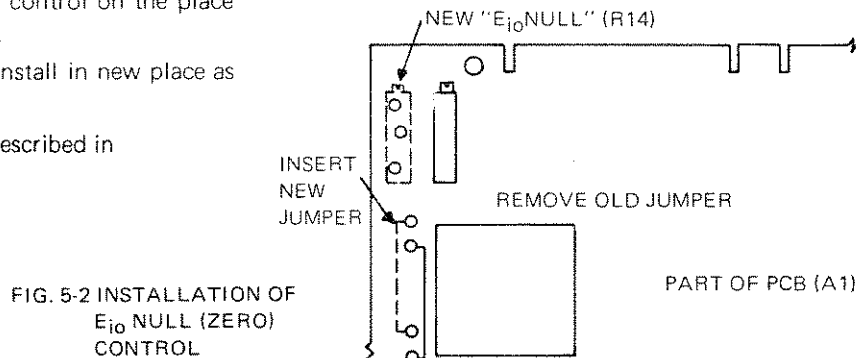

FIG. 5-2 INSTALLATION OF E_{iO} NULL (ZERO) CONTROL
- Remove thy PCB Assembly from the chassis as described in paragraph 5-3. Locate the pre-designated space for the additional components on FIG. 5-2.